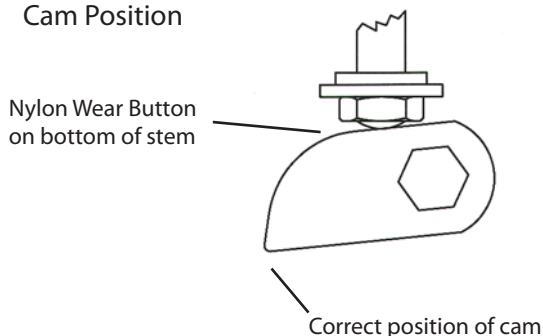

Figure 3
6. Next assemble mounting bracket to Rotary Actuator using (4) 1/4" lock washers and (4) 1/4"-20 x 9/16" socket head cap screws. Tighten each screw using a staggered tightening sequence. Torque each 50-60 in-lbs. See figure 3.